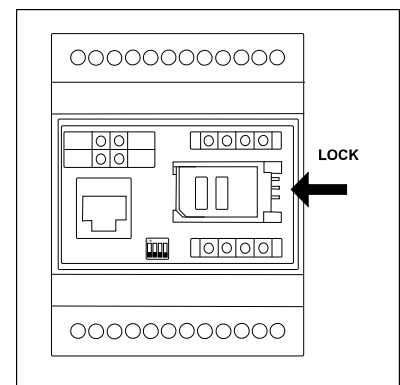

Figure 7.1.4
- Slide the SIM card holder away from its hinges to lock it (see the **figure 7.1.4**).